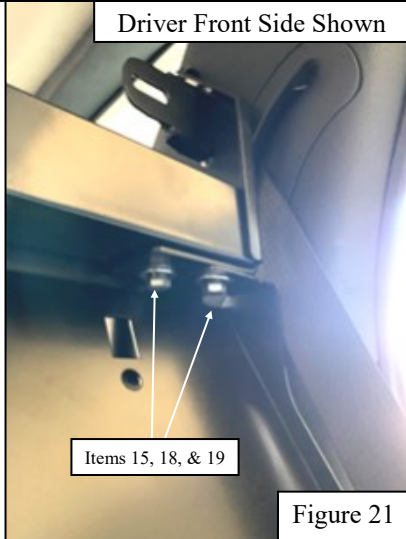

Figure 21
13. While installing the Center Filer Panel, also install the Belt Support Bracket (Item 11) loosely with room for adjustment with the provided M8 hardware (Items 15, 18, & 19). See **Figure 21 & 22** for reference.